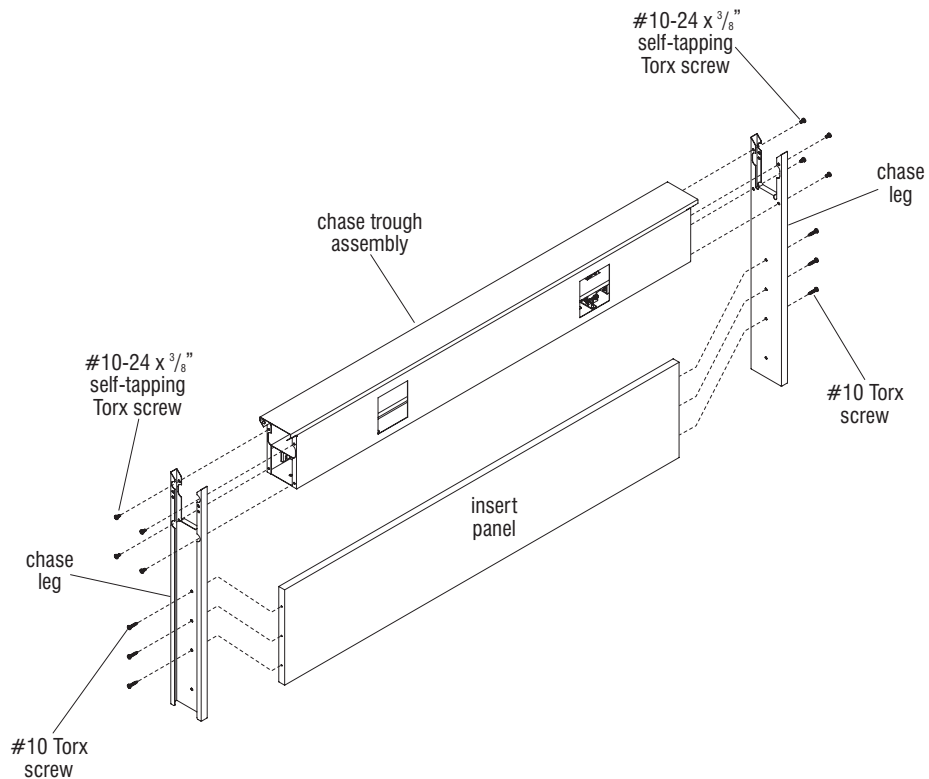

Figure 1 - Chase Unit Assembly
1. To begin assembly of the chase unit, first unpack and carefully set chase trough assemblies out on a soft protective surface. Remove chase legs from packaging and separate by height for either 24" or 30" installations, if required per the space-planning layout (Figure 1).
2. Align the top mounting holes of the chase legs to each trough assembly and secure together using four #10-24 x 3/8" self-tapping Torx screws, at each side of the trough assembly as illustrated (Figure 1).
3. Unpack insert panels (either steel or laminate). Position insert panel between the installed chase legs. Align mounting holes of panel with legs and secure using three #10 Torx screws each side (#10-24 x 3/8" self-tapping Torx for steel, or #10 x 1" Torx wood screw for laminate) (Figure 1).